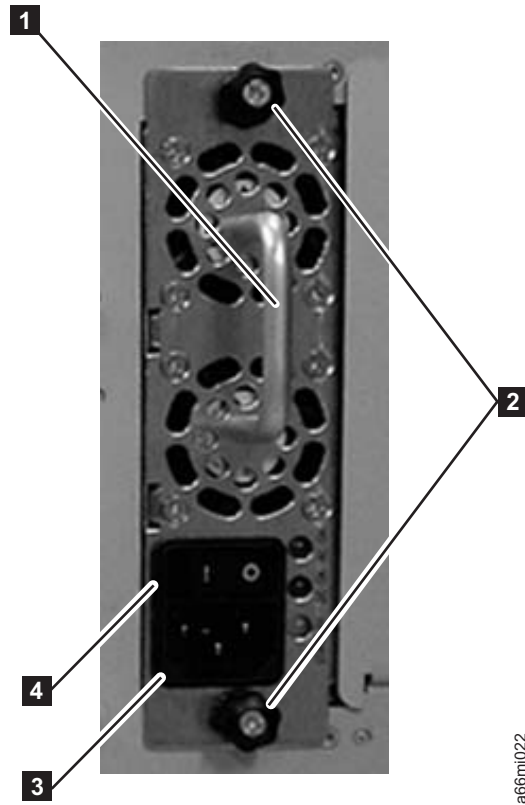

Figure 3-31. Control Module Power Supply
1. Replace the power supply component by sliding it into the power supply slot. First, grasp the handle ( **1** in Figure 3-31) while supporting the power supply component from underneath. Then, line up the power supply component with the guides in the power supply slot, and carefully push it into the library.
2. Tighten the two thumb screws ( **2** in Figure 3-31) on the power supply component by turning them clockwise.
1. Turn the switch on each power supply ( **4** in Figure 3-31 on page 3-32) to the ON (1) position.